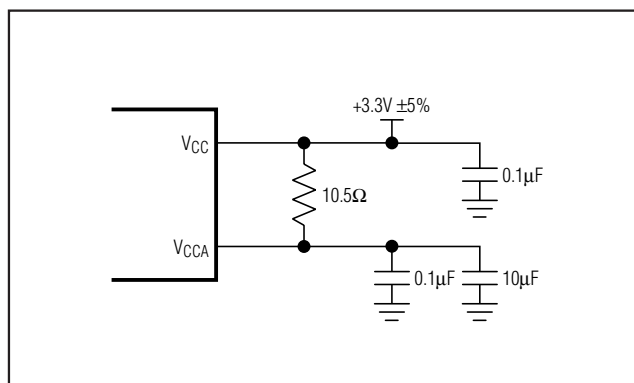

Figure 2. Analog Supply Filtering
- Note 1:** A series resistor of up to 10.5Ω is allowed between VCC and VCCA for filtering supply noise when system power-supply tolerance is VCC = 3.3V ±5%. See Figure 2.
The MAX3679 is a mixed analog/digital IC. The PLL contains analog circuitry susceptible to random noise. In addition to excellent on-chip power-supply noise rejection, the MAX3679 provides a separate power-supply pin, VCCA, for the VCO circuitry. Figure 2 illustrates the recommended power-supply filter network for VCCA. The purpose of this design technique is to ensure clean input power supply to the VCO circuitry and to improve the overall immunity to power-supply noise. This network requires that the power supply is  $+3.3V \pm 5\%$ . Decoupling capacitors should be used on all other supply pins for best performance.